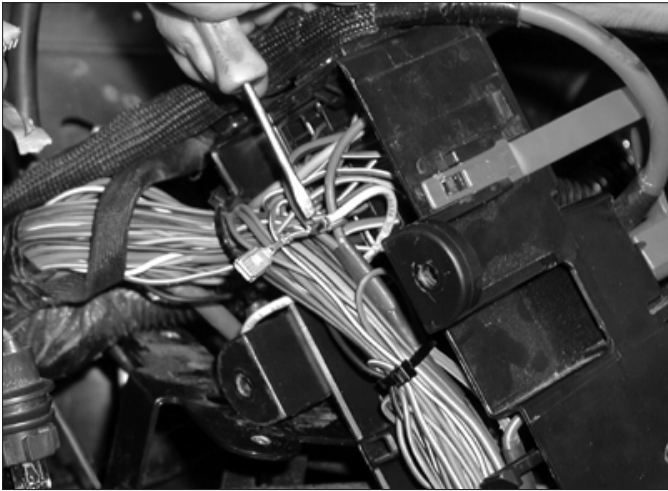

Fig. 11-9
- Q. Here is the trigger wire for the controller. (See Fig. 11-9.) Use a provided Quick Connector to attach the gray wire. The other end of the trigger wire is connected to the relay with a female disconnect on the 86 terminal (relay). Reassemble the fuse box.